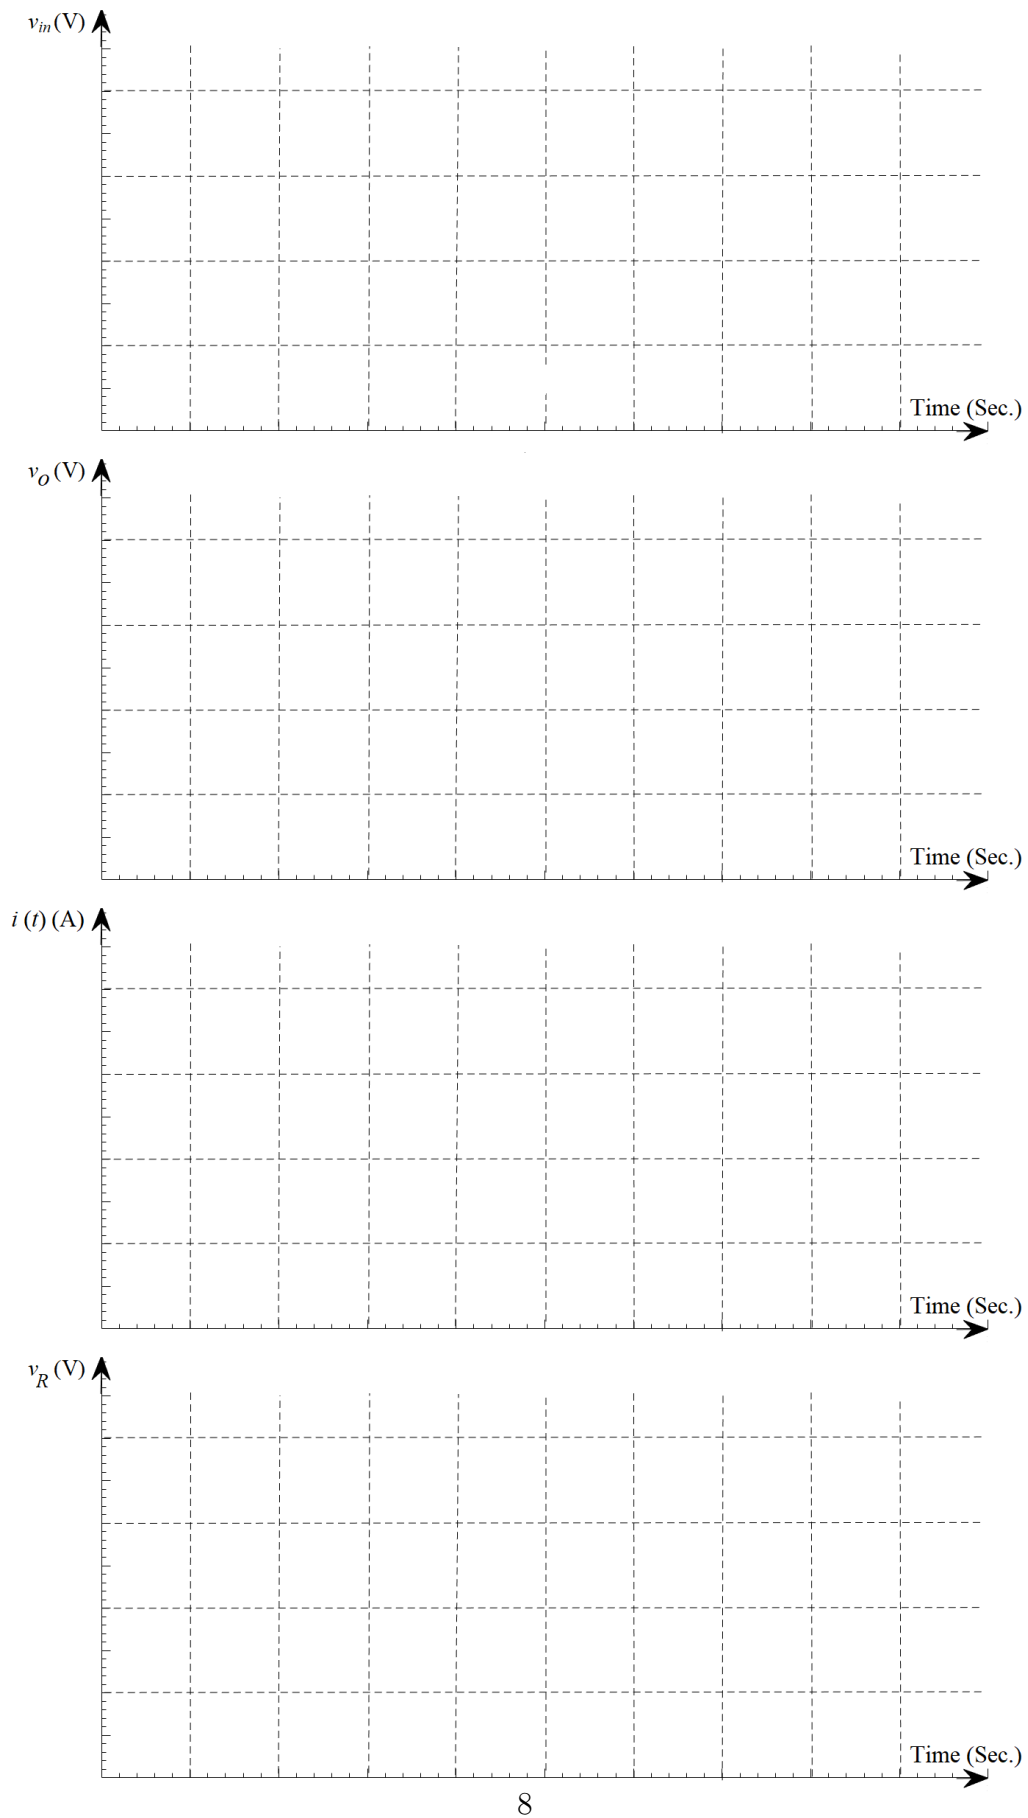

Figure 4: Input voltage, output voltage, loop current and resistor voltage of a series RC circuit.
3. Display simultaneously voltage $v_{in}(t)$ across the function generator (on CH 1) and $v_o(t)$ across the capacitor C (on CH 2). Sketch the two measured waveforms $v_{in}(t)$ and $v_o(t)$, also calculate, sketch and label the waveforms, $v_R(t)$ and $i(t)$ on the graphs given in Fig. 4.